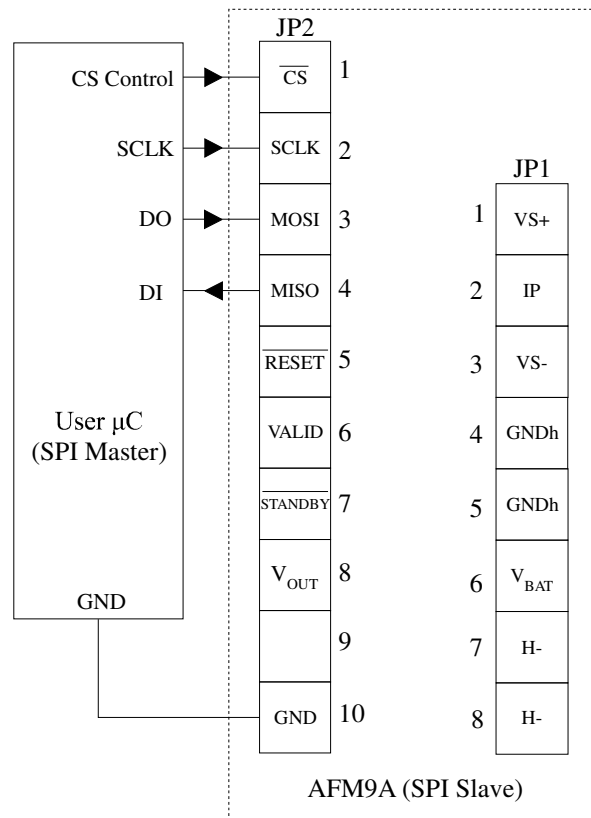

Figure 4. SPI Connections
The AFM9D is connected to a SPI master as shown in Figure 4. The AFM9D operates in SPI slave mode 0 with an alternative implementation of the Slave Select called Chip Select (CS). Table 3 lists how each connection should be configured on the user microcontroller. All signals connected to the AFM9D should adhere to the V_{OH} , V_{OL} , V_{IH} , and V_{IL} values in Section 11.